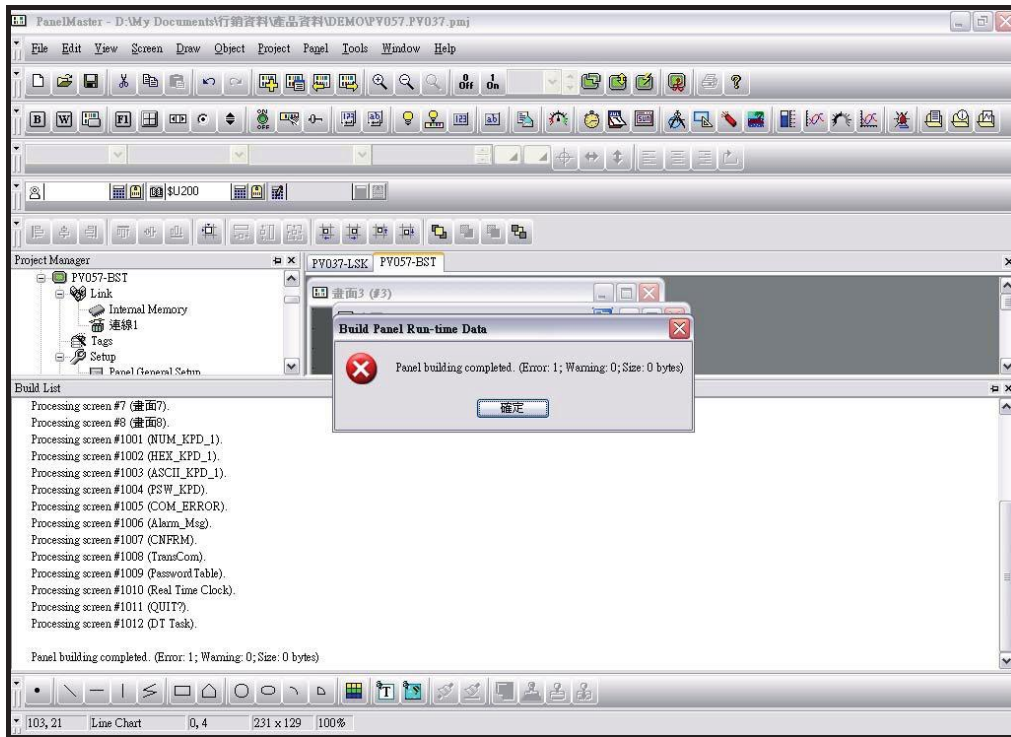

Figure 2-98 New project_step 7_ Build touch panel run-time data
Step 7: When all settings completed, users can execute “Build touch run-time data” from Panel drop down menu in order to know whether there are mistakes or not. See as shown in figure 2-98.